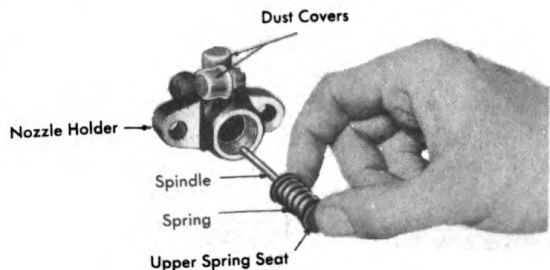

Figure 210. Removing Spring and Spindle.
4. Remove spring and spindle. See Figure 210. Wash the parts thoroughly in fuel oil or gasoline. Examine the small end of the spindle for any irregularities when it contacts the nozzle stem. If the contact surface is pitted or rough, replace the spindle. Check the spring seat for tightness to spindle and cracks or worn spots. Replace if necessary.